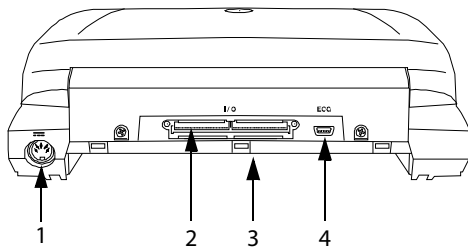

Figure 2-2 System back connectors: (1) DC input connector, (2) I/O connector, (3) Battery, and (4) ECG connector
- 1 Connect the DC power cable from the power supply to the connector on the system. Refer to Figure 2-2 on page 2-2.